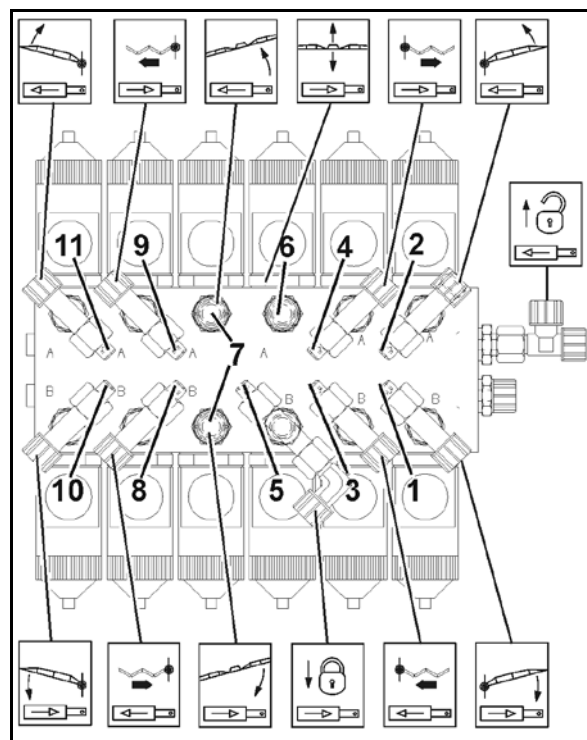

**Fig. 169**
If this is not the case, with the swing compensation **unlocked** align the folded-out sprayer boom by means of counterweights (Fig. 169/1). Secure the counterweights to the boom extension accordingly.
1. Release the screws (Fig. 169/2) of the securing link (Fig. 169/3). The boom is aligned directly at the plastic catch (Fig. 169/4) through the slotted holes of the securing link.
3. Tighten the screws (Fig. 169/2).